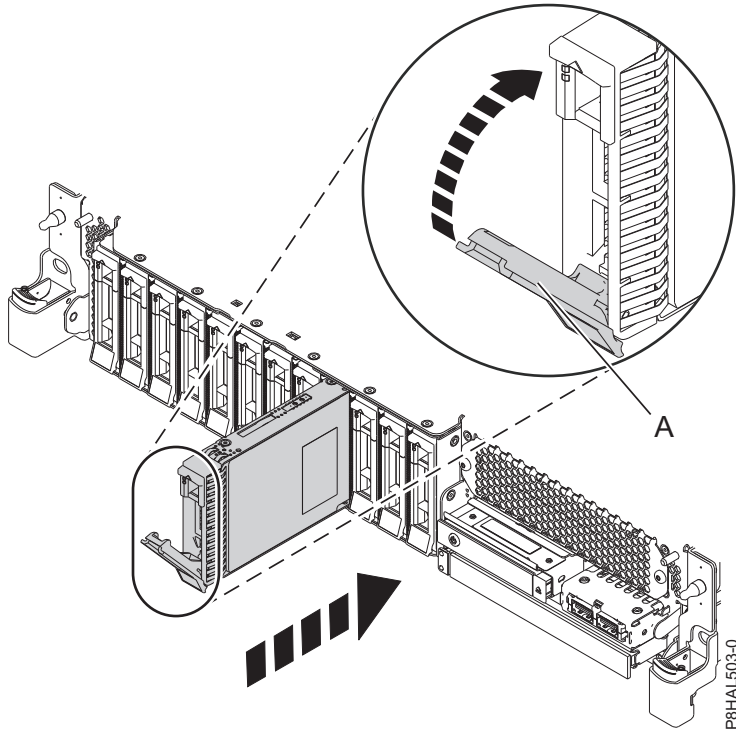
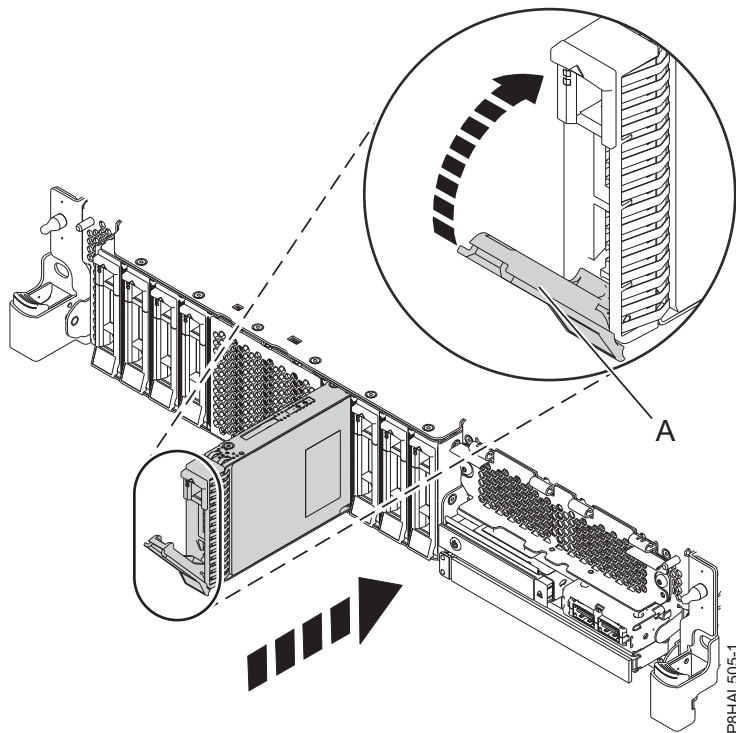

Figure 78. Replacing a disk drive in a base function system
Figure 79. Replacing a disk drive in an expanded function system
4. Unlock the drive bay handle (A) by pressing it and pulling it out toward you. If the handle is not all the way out, the drive does not slide into the system. See Figure 78 on page 80 and Figure 79 on page 80.
9. When the identify LED turns on solid, slide the drive all the way into the system, and push in the drive handle (A) until it locks, as shown in Figure 78 on page 80 and Figure 79 on page 80.